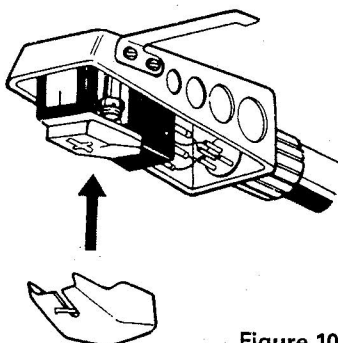

Figure 10
- Exchange of the stylus can be done as shown in figure 10.